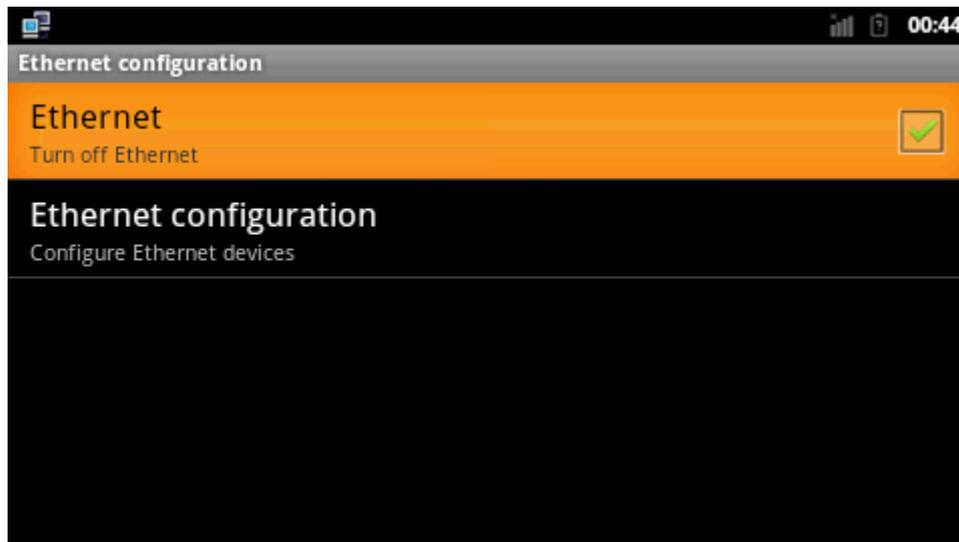

Figure 5-26
(2) Open Ethernet. Refer to figure 5-26: